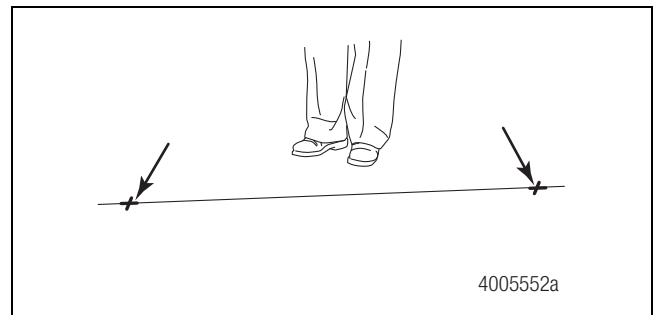

Figure 13.30
4. Draw a straight line connecting the points on the ground. Figure 13.30.